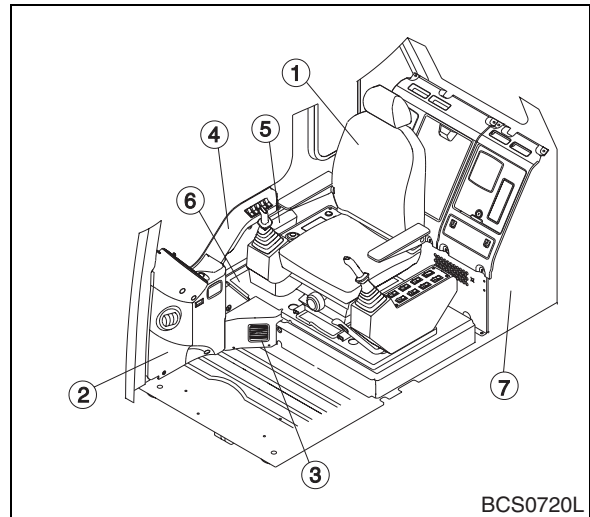

Figure 2
13. Remove operator's seat (1, Figure 2).
14. Remove duct covers (2, 3 and 4, Figure 2). When removing cover (2) disconnect hour meter connector and cigar lighter connector. Disconnect main harness connector before removing cover (4).
15. Remove pocket (5, Figure 2) before removing side panel (6, Figure 2).
23. Disconnect cabin ground cable (7, Figure 2).